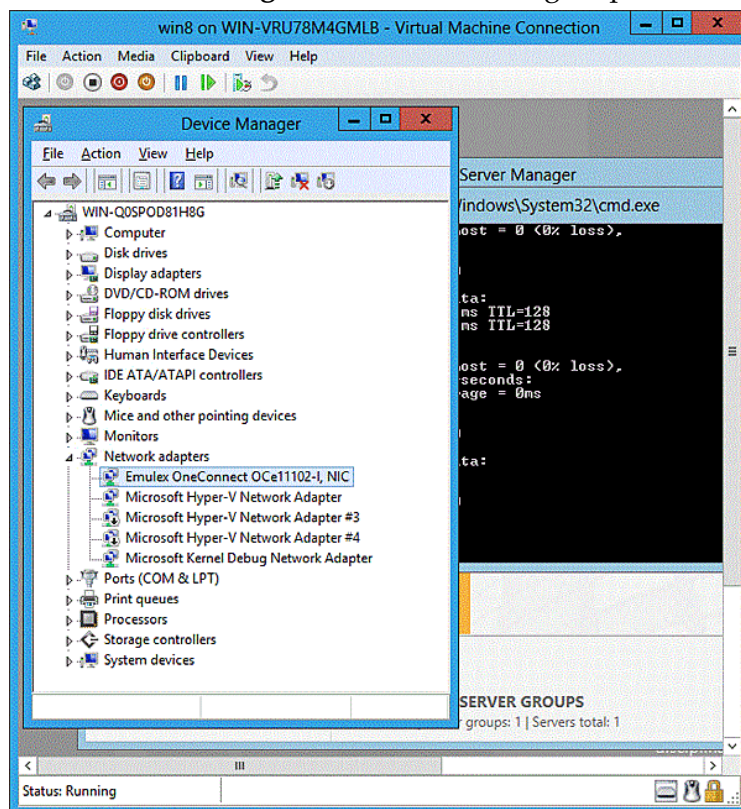

Figure 3-4 Device Manager for Windows Server 2012
2. Click **Device Manager**. The Device Manager opens. See Figure 3-4 on page 71.
2. Click **Device Manager**. The Device Driver opens. See Figure 3-4 on page 71.